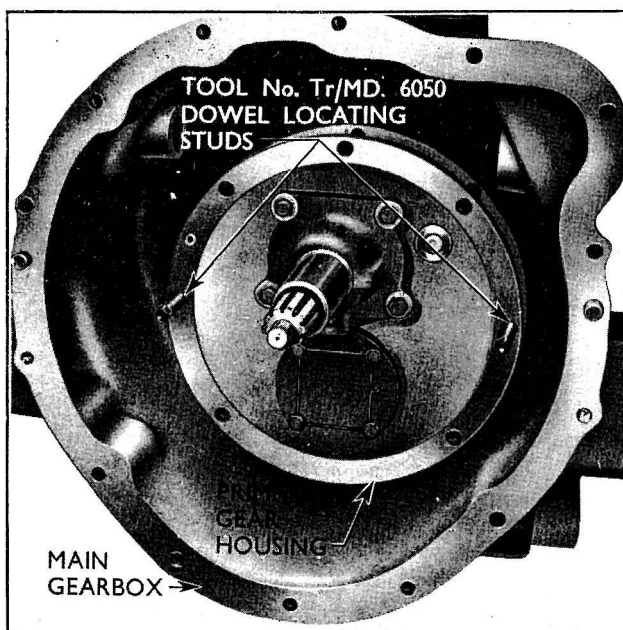

Fig. 160
- 4 Unscrew the seven wire-locked securing bolts, fit two locating studs Tr/MD 6050 at the right- and left-hand centre bolt holes and then ease the primary gearbox out of the main housing (see Fig. 160).